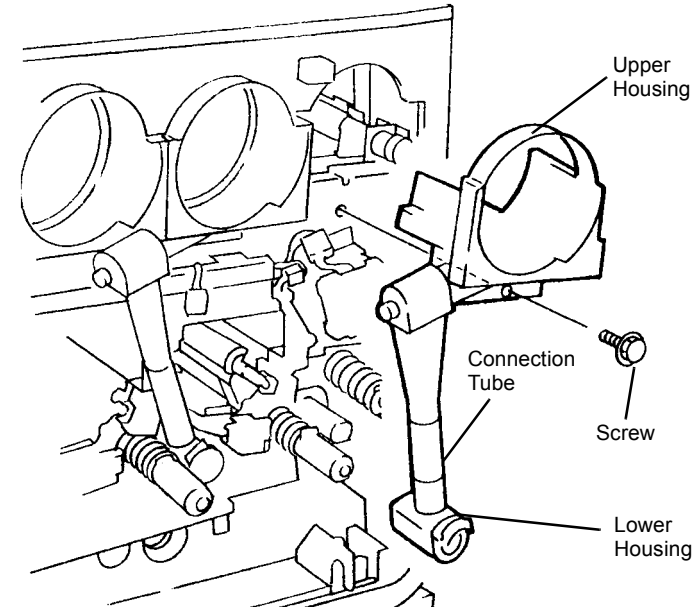

Figure 2 Removing Toner Transport
7. Remove Toner Transport (Figure 2).